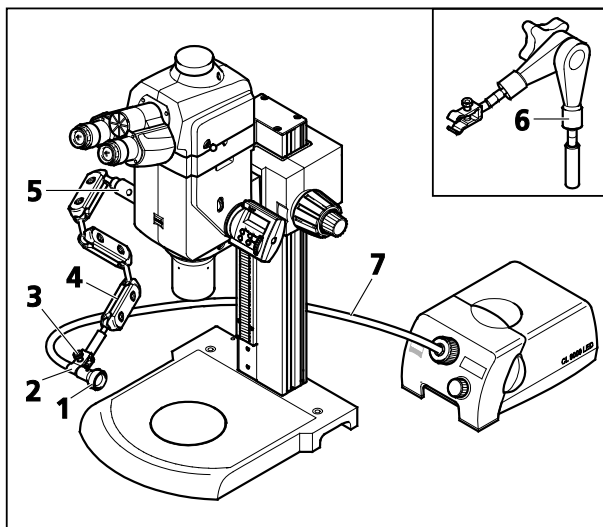

Fig. 19 Mounting the focusing attachment with light bracket
Light bracket S (Fig. 19/4)
- Screw light bracket S (Fig. 19/4) into the tapped hole on the stand or carrier/nosepiece either directly or using spacer S (Fig. 19/5) and tighten. To do this, insert the socket wrench SW 3 into the through-hole of the light bracket S or spacer.
- Screw clamp S (Fig. 19/2) on the underside of the light bracket S tightly.
- Insert focusing attachment (Fig. 19/1) into clamp S and secure with the knurled screw (Fig. 19/3).
Articulated arm S (Fig. 19/6)